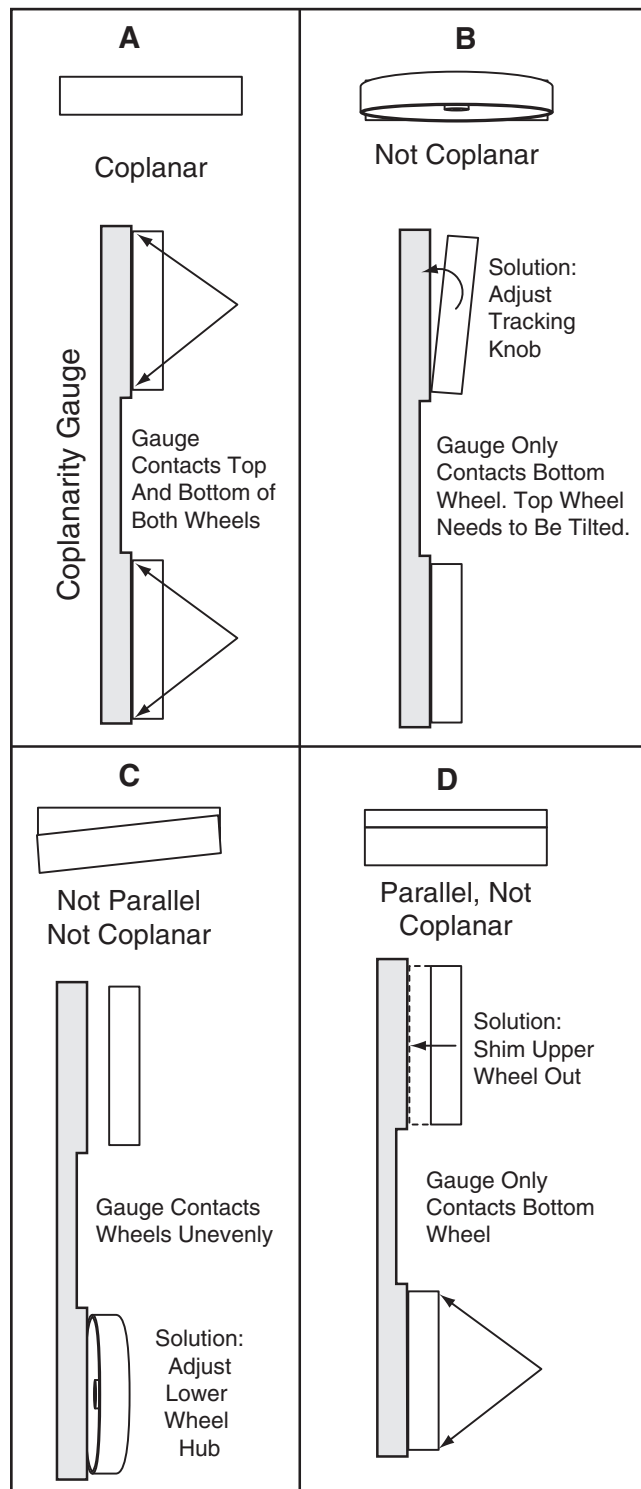

Figure 116. Coplanar diagram.
- If the wheels *are* coplanar (**Figure 116, A**), the straightedge will evenly touch the top and bottom of both wheels.
- If the wheels *are not* coplanar (**Figure 116, B**), place the straightedge on the lower wheel first (ensuring that it touches both the top and bottom rim), then adjust the upper wheel tracking knob to make the upper wheel coplanar and parallel with the lower wheel.
- If the straightedge *does not* touch both wheels evenly, the upper wheel needs to be shimmed (**Figure 116, D**) or the lower wheel needs to be adjusted (**Figure 116, C**).